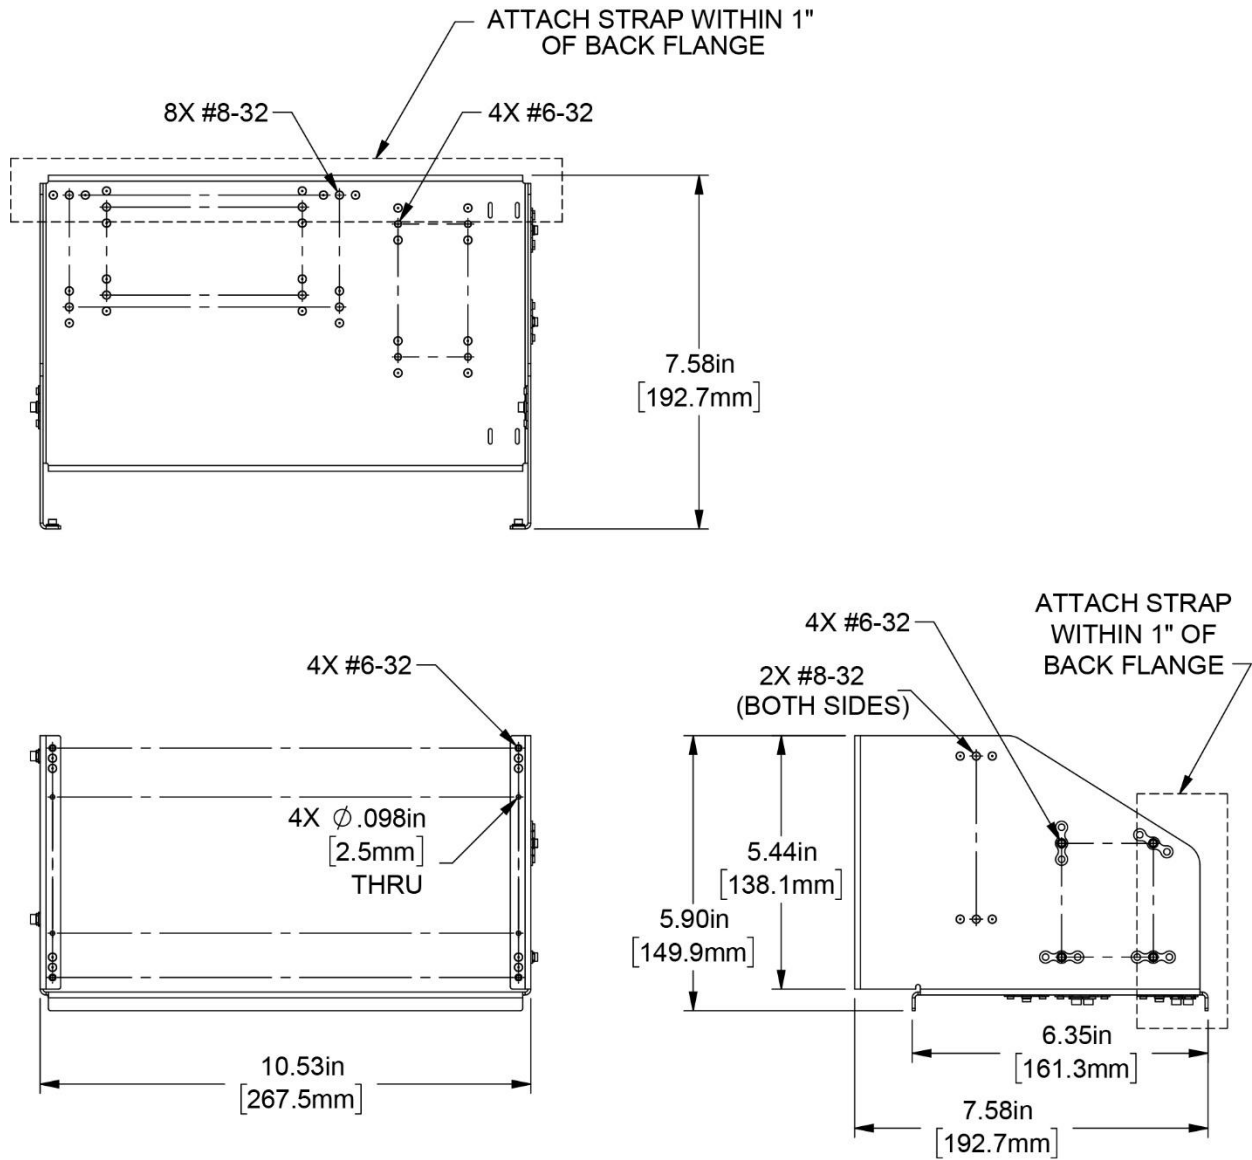
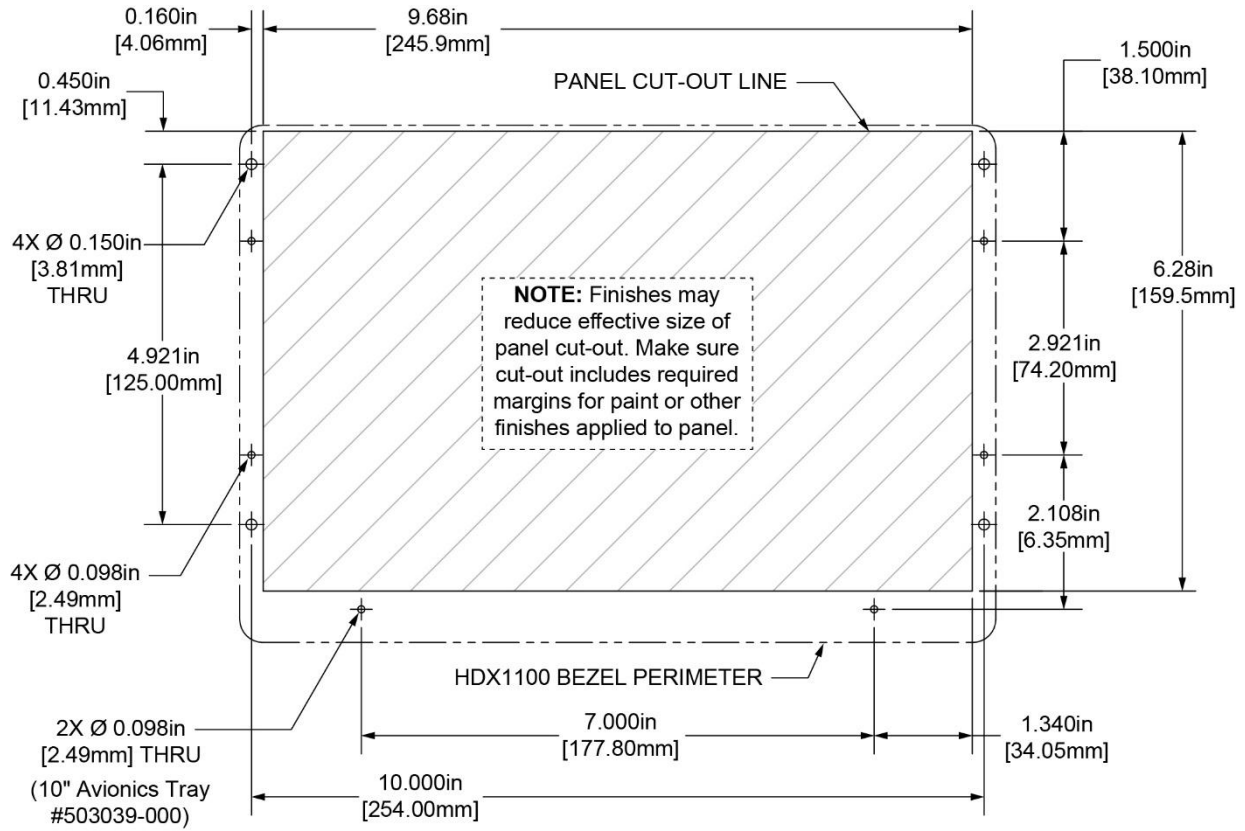
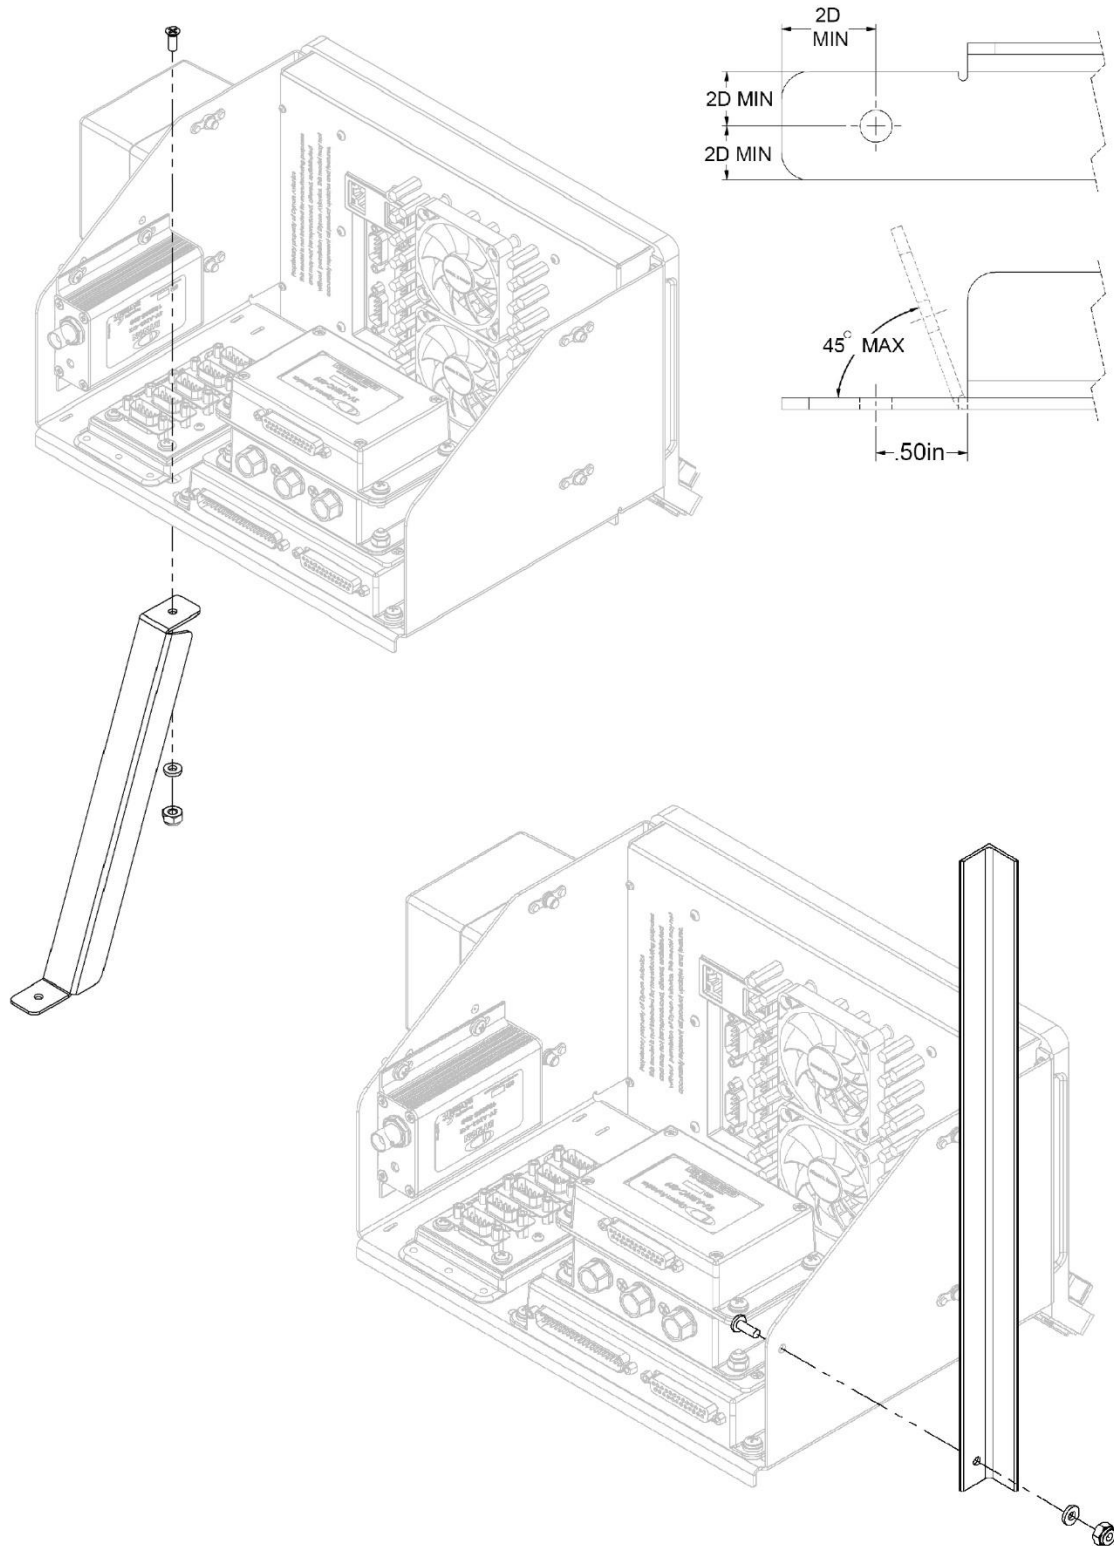

Figure 21: Physical Dimensions – SV-HDX1100 Universal Module Mounting Tray Kit
Figure 22: Panel Cut-out Dimensions – SV-HDX1100 Display
Figure 23: Stabilizer Strap Attachment Examples
- SV-HDX1100 Universal Module Mounting Tray Kit – Figure 21 and Figure 22.
8. If required, install a stabilizing strap to further support tray (see Figure 19 and Figure 21 for tray attachment points; see Figure 23 for tray attachment examples).